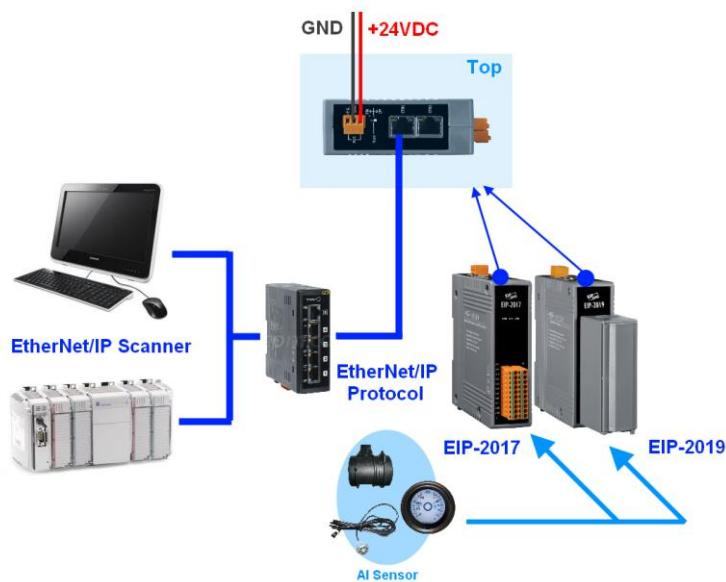

Figure 3-2 EIP-2000 module installation
4. Connect both the EIP-2000 and your computer to the same sub network or the same Ethernet switch, and power the EIP-2000 on. Please refer to figure 3-2.